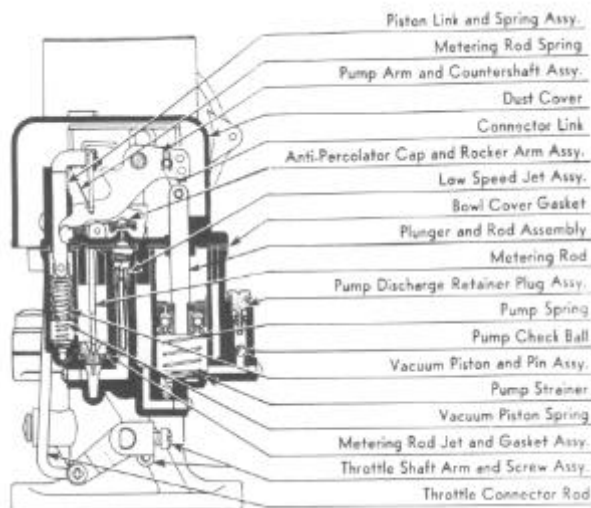

Figure 4-Carburetor Single - Models 40, 48
7. Remove anti percolator cap and rocker arm assembly and spring by removing anti percolator pin, see Figure 4. Place parts in High Speed Circuit group.